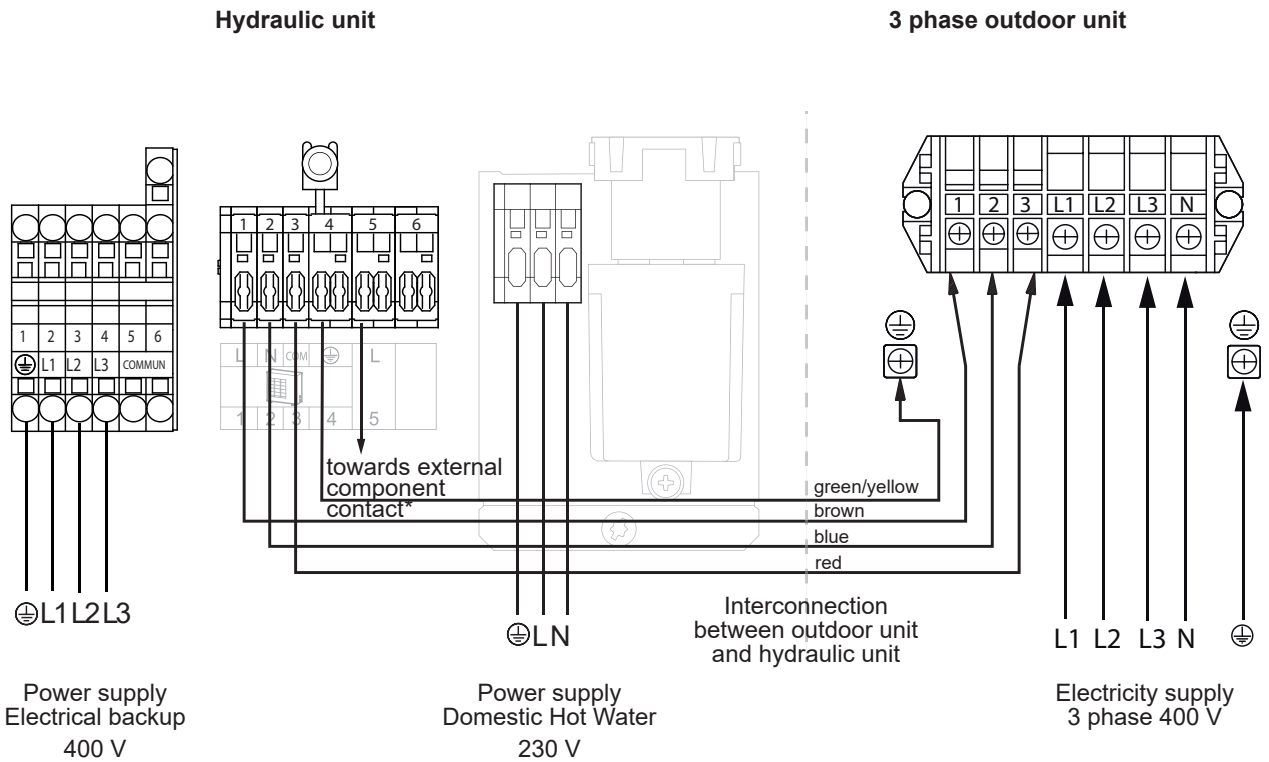

fig. 45 - Connection to terminal blocks and power relay
- Make the connections according to the diagram(s) fig. 39 and fig. 45, page 40.
- Make the connections according to the diagram (fig. 45, page 40).